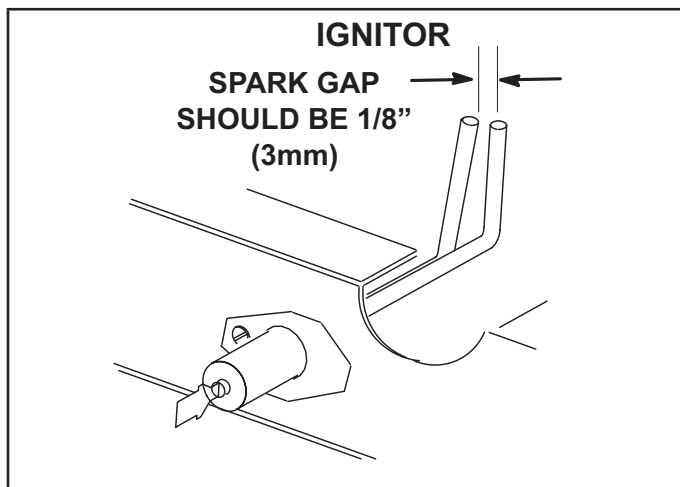

FIGURE 39
- 5 - Locate the ignitor under the right burner. Check ignitor spark gap with appropriately sized twist drills or feeler gauges. See FIGURE 39.